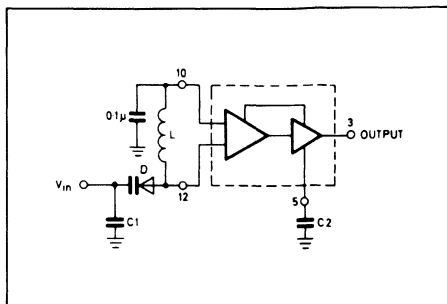

Fig. 5 The SP1648 operating in the voltage-controlled mode
When operating the oscillator in the voltage controlled mode (Figure 5), it should be noted that the cathode of the varactor diode (D) should be biased at least 2 V_{BE} above V_{EE} (≈ 1.4 V for positive supply operation).
Capacitors (C1 and C2 of Figure 5) should be used to bypass the AGC point and the VCO input (varactor diode), guaranteeing only dc levels at these points.